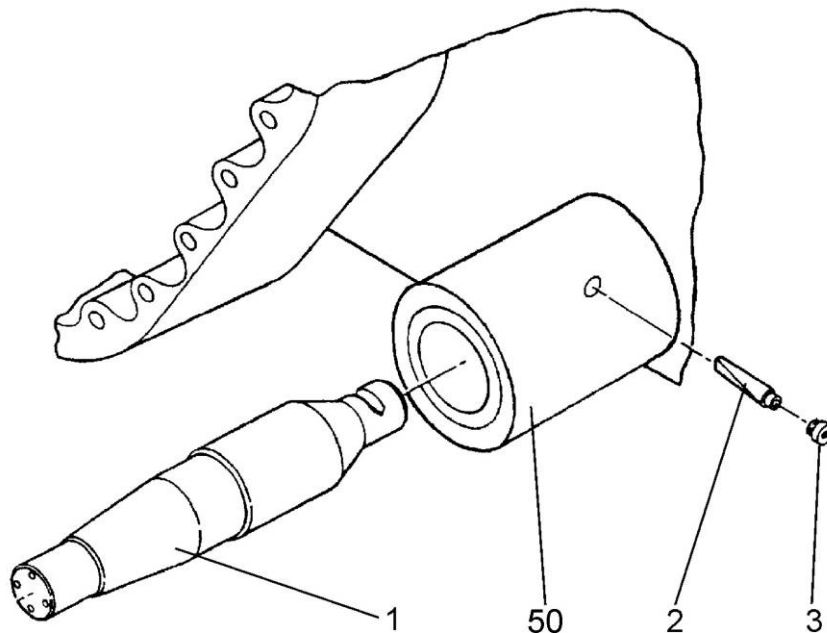

Fig. 14.34. Pivot Shaft
3. Guide pivot shaft into rear frame with notch facing up. When end of alignment tool bottoms against hub on rear frame, shaft will be installed to correct depth. Rotate pivot shaft with tool handle to align groove in shaft with lock pin. Unscrew threaded rod from lock pin and install lock pin (2, Fig. 14.34). Torque pin plug (3) to 275 [Nm].